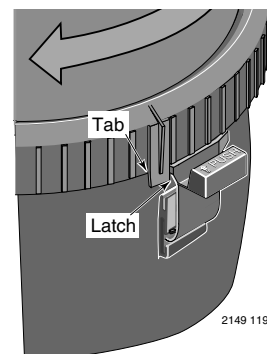

Figure 3 – Rotate Posi-Lok[™] Ring until tab locks behind the safety latch.
1. Securely lock Posi-Lok[™] ring in place by rotating ring **CLOCKWISE** until it "clicks" past the safety latch (see Figure 3). Stop turning as soon as the ring clicks past the latch. The ring may feel slightly loose, but it will tighten up when pump is on and filter is under pressure.
- d. Rotate the Posi-Lok™ clockwise until it locks behind the safety latch (see Figure 3).